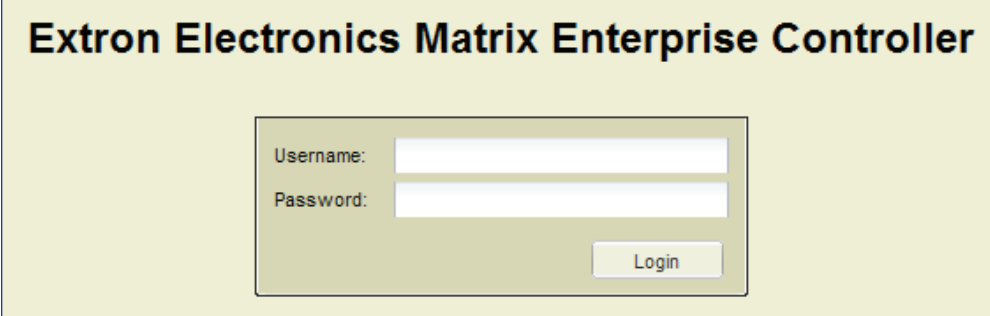

Figure 180. VNM Enterprise Controller Login Page
4. Open a web browser on the control PC and type in the IP address of the VNM Enterprise Controller in the address bar (the default address is `http://192.168.254.254`). The login page opens (see figure 180).